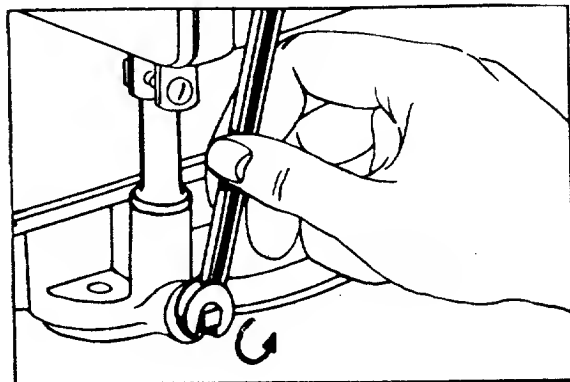

FIGURE 27.
After the first five hours of operating a new engine, drain the oil (see figure 27) from the crankcase while engine is still hot and refill crankcase with new oil; thereafter change the oil every 25 hours of operation. This procedure ensures minimum wear of engine parts. To change the oil, proceed as follows:
1. With the machine on level ground, place a suitable metal container under the oil drain plug, then remove the drain plug. See figure 27.